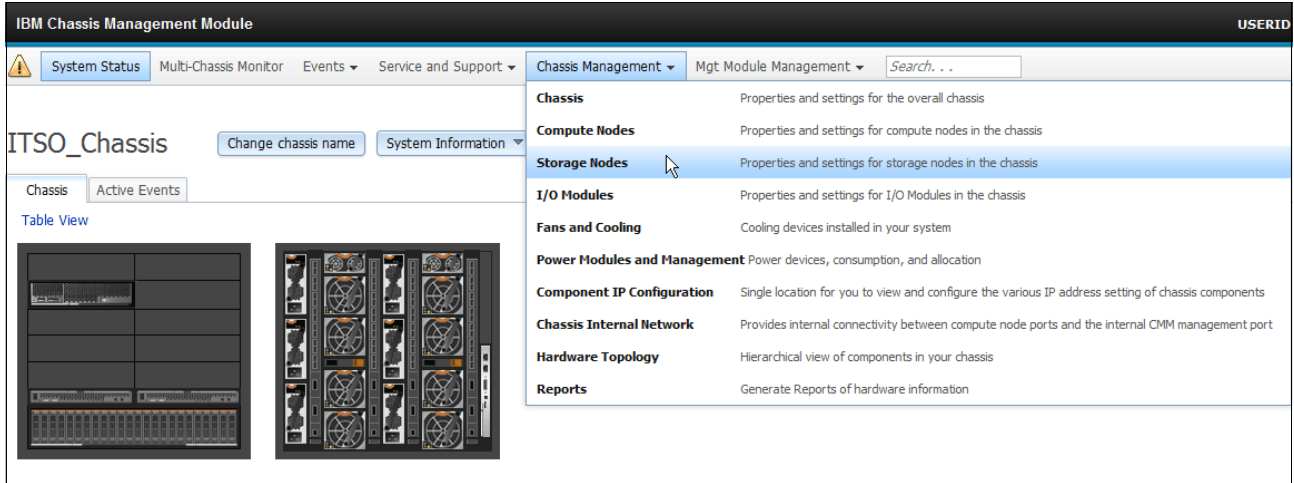

Figure 3-27 Chassis Management - Storage Nodes
- From the top menu, select **Chassis Management** → **Storage Nodes** to view details regarding storage nodes, as shown in Figure 3-27.